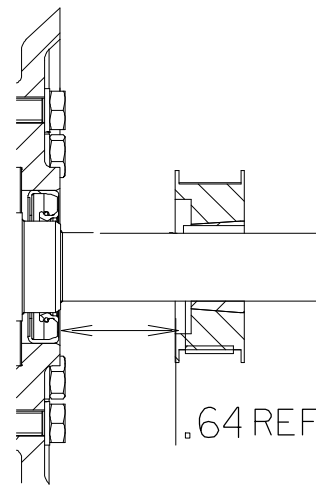

Figure 7. Drive Sprocket Positioning
Install the key (50) in the shaft keyway, making sure to leave room in the keyway for the drive key (47). Install the sprocket (48) and bushing (49) on the shaft to the dimension shown in Figure 7.